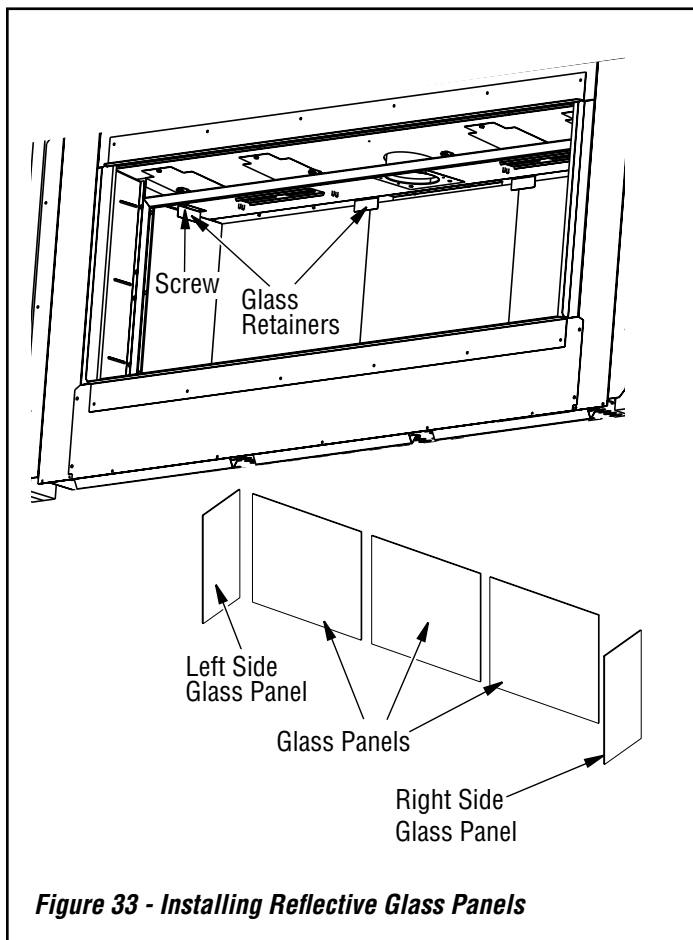

Figure 33 - Installing Reflective Glass Panels
5. Install the three rear glass panels using 2 retaining brackets and screws starting from the left to right side (**Figure 33**).